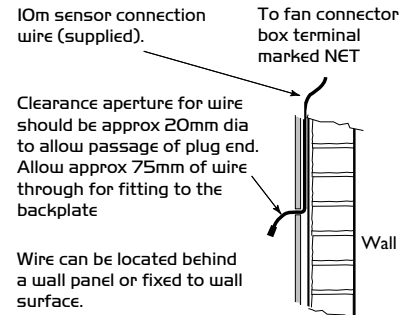

Figure 1.
- Select a suitable location for the sensor and arrange the cable in position. Leave approx. 75mm of the cable free at the mounting point to ease the connection of the plug. (fig. 1).